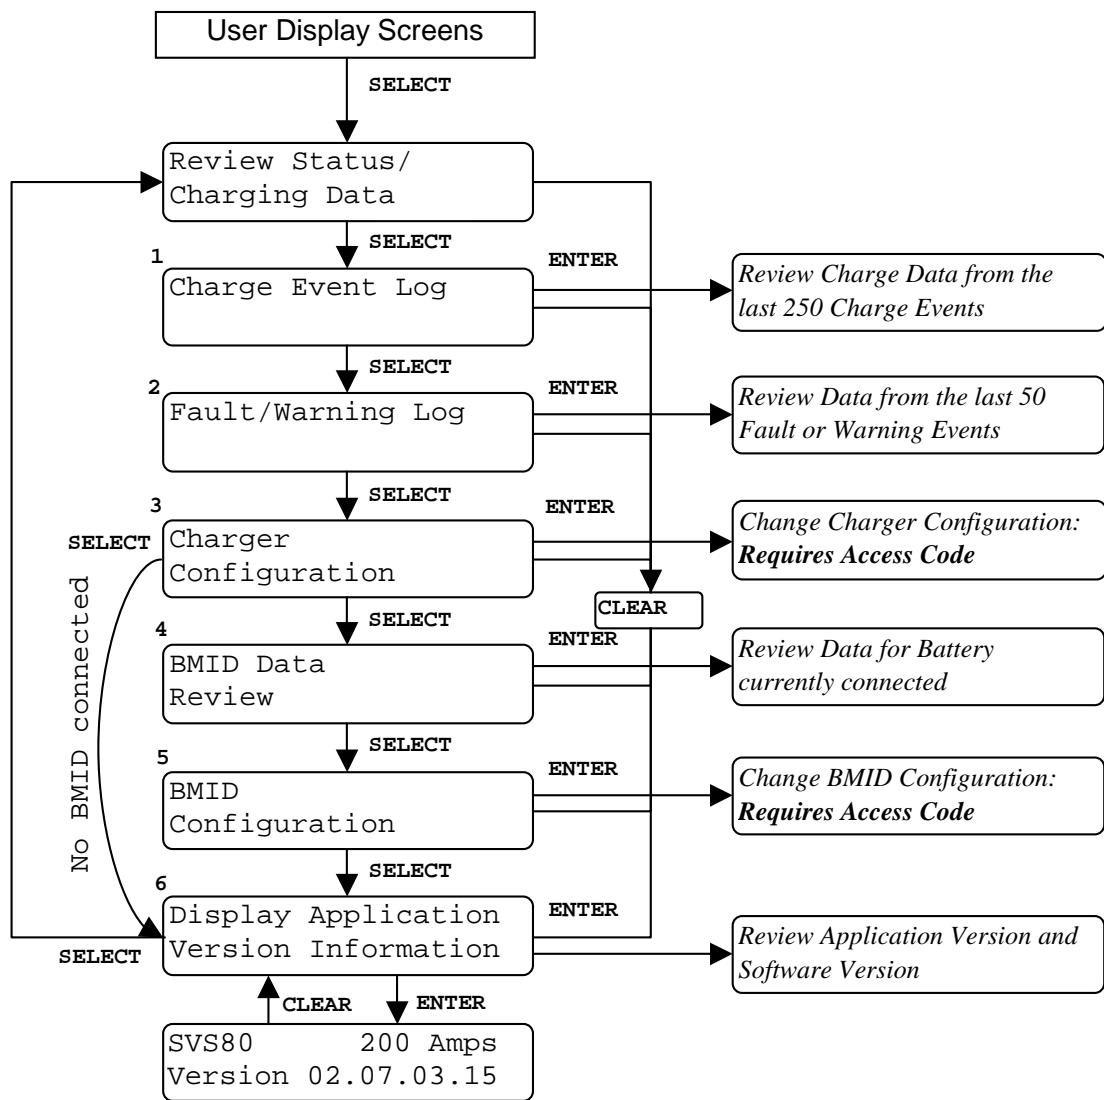

Figure 5- 8 Top Menu Items for the Advanced Features
1. Charge Event Log - Allows the user to scroll through the data from the last 250 charge events (Figure 5- 7).